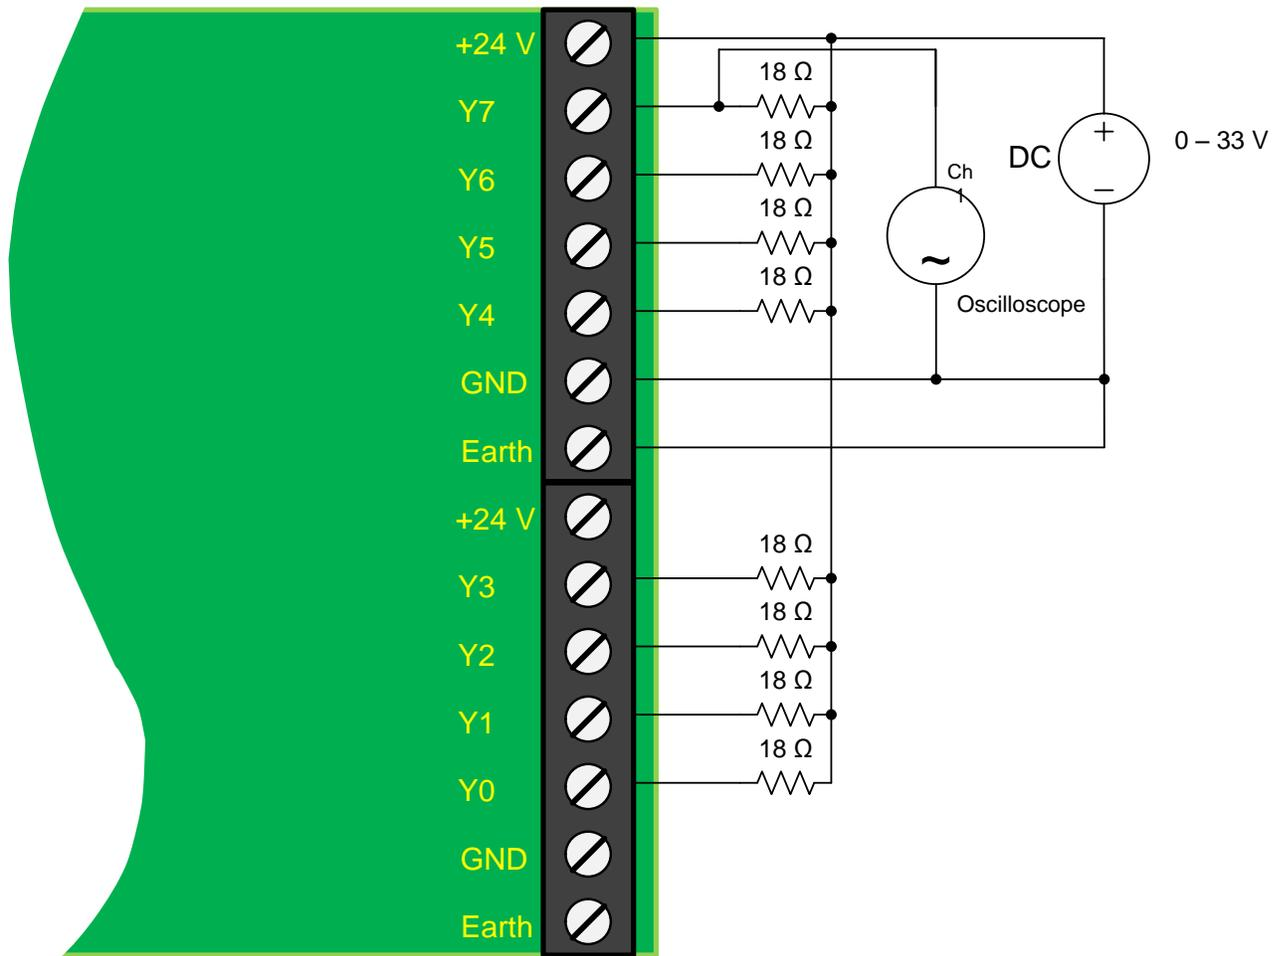

Figure 3. Measurement Setup for Rise and Fall Times
- Connect loads and power supply according to Figure 3.